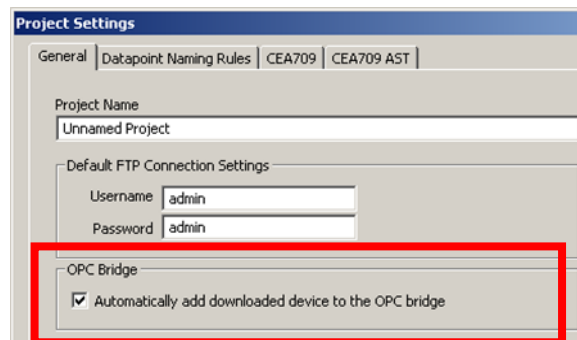

Figure 141: Enable bridge export in the project settings.
2. In the LINX-10X Configurator menu go to "Settings|Project settings ...". This opens the project settings dialog on the tab **General** as shown in Figure 141.